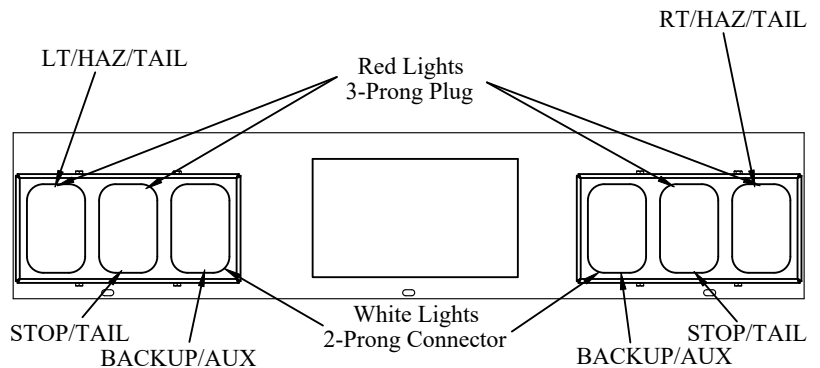

Figure 10: Light Functions and Colors
2. Pull harness plugs through the inserted grommets, matching the proper tail light configuration (Figure 10).
3. Connect the plugs to their lights (Figure 10).